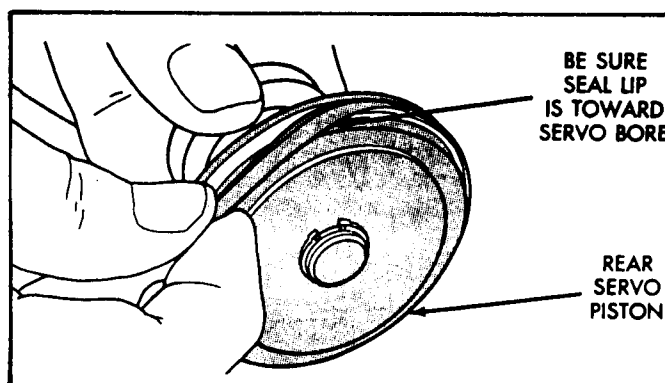

Figure 41
24. Install new lip seal on piston, with the lip facing away from cushion spring as shown in Figure 41.